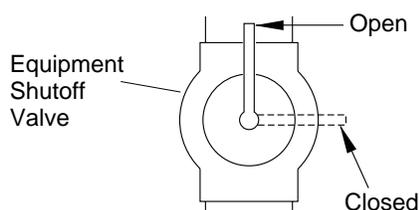

Figure 43 - Equipment Shutoff Valve
1. Close equipment shutoff valve (see Figure 43).
1. Open equipment shutoff valve (see Figure 43).